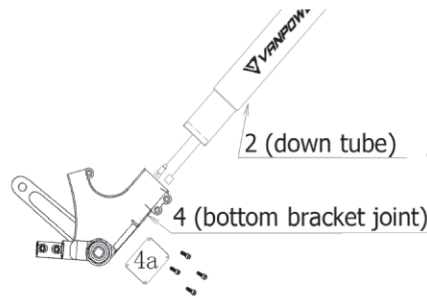
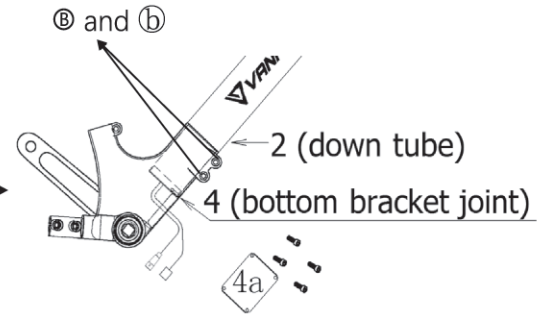

Figure 8-1.
Figure 8-2.
b. Turn Part 4, as shown in Figure 8-1. Insert Part 2 into Part 4 while threading the cables from Part 2 through and out of the rectangular hole in Part 4, as shown in Figure 8-2.